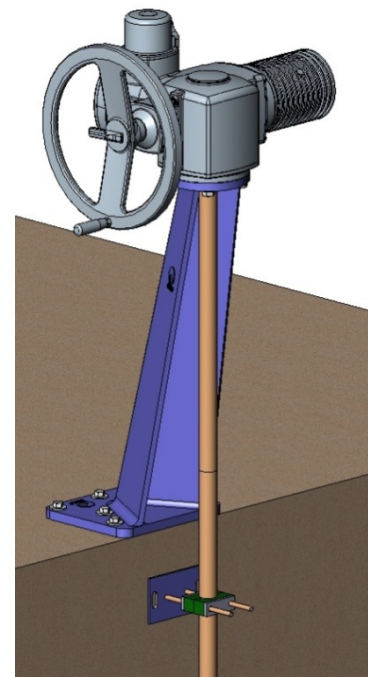

fig. 14
- Possibility of leaning floor stand (fig. 14).